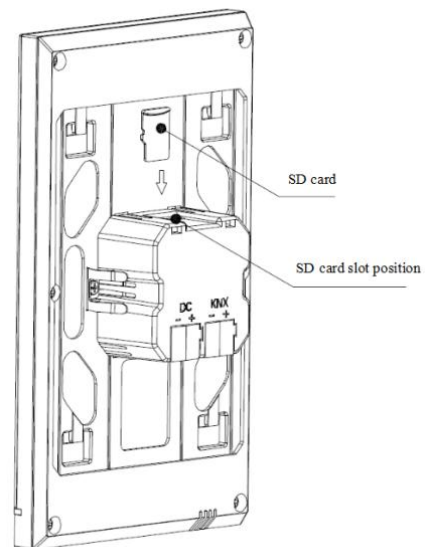

Fig.3.3.2.6
4. After finishing the installation, if disassembly is required, please perform this step: Push the device upward, then pull it out toward the horizontal direction when hear a buckle sound or when the device can no longer be moved, then the disassembly is finished. As shown in Fig. 3.3.2.5. The disassembly of SD card as shown in Fig.3.3.2.6.